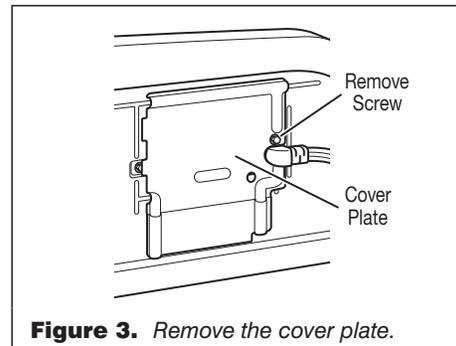

Figure 3. Remove the cover plate.
2. Remove the cover plate from the back of the console panel on the dryer. See figure 3.
2. Remove the cover plate from the back of the console panel on the dryer. See figure 3, page 5.